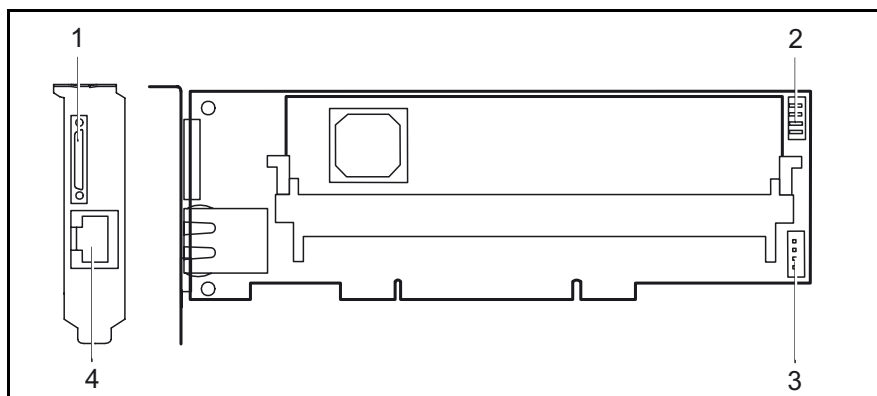

Figure 39: Connectors of the RSB S2 LP
- ▶ Plug the IPMB cable supplied with the server into the plug (see (3) in the figure 39) on the RSB S2 LP.